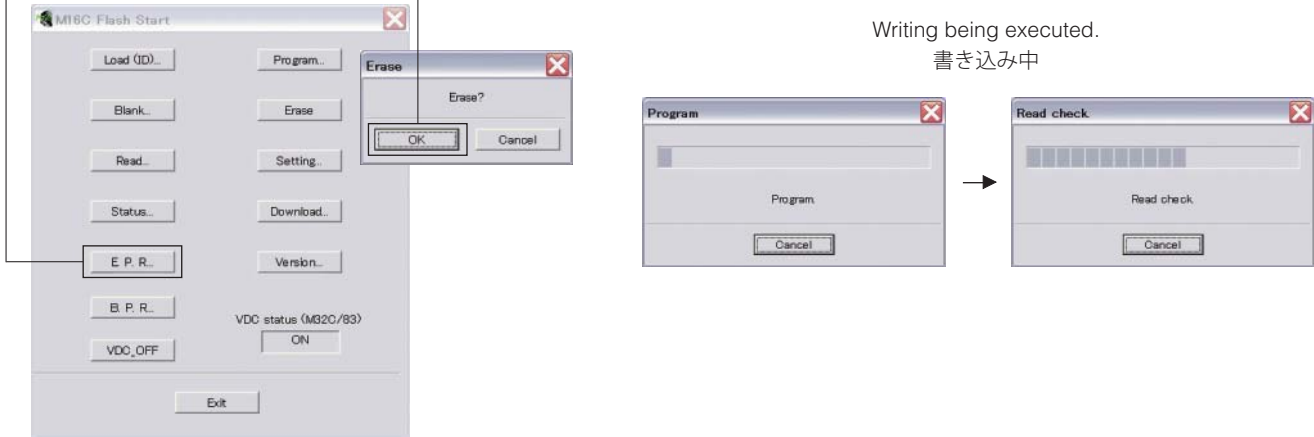

Fig. 6
6. Click [E.P.R.], then the "Erase" screen appears. (Fig. 6)
7. Click [OK] to start writing. (Fig. 6)
す。(Fig. 6)
(Fig. 6)